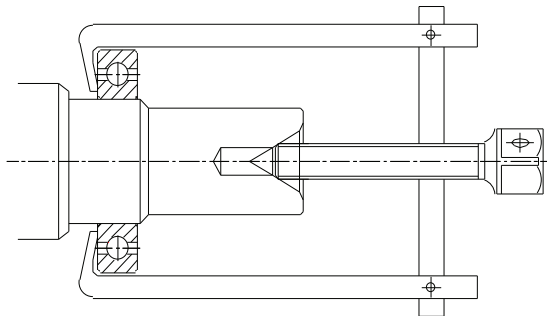

Fig. 2.5 – Assembly of Bearing
3.2.5 Loosen the circlip (124) and take out of the circlip from the driving spindle. Disassemble bearing (101) by using thruster or bearing puller (see Fig. 2.5).